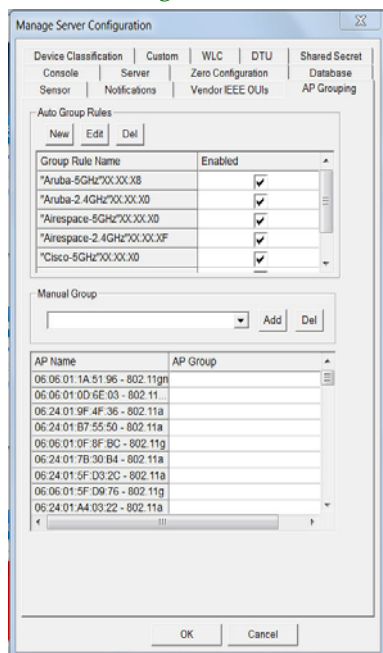

Figure 13-24: AP Grouping Tab
- 1) From the Manage Server Configuration window, click the AP Grouping tab. See Figure 13-24.